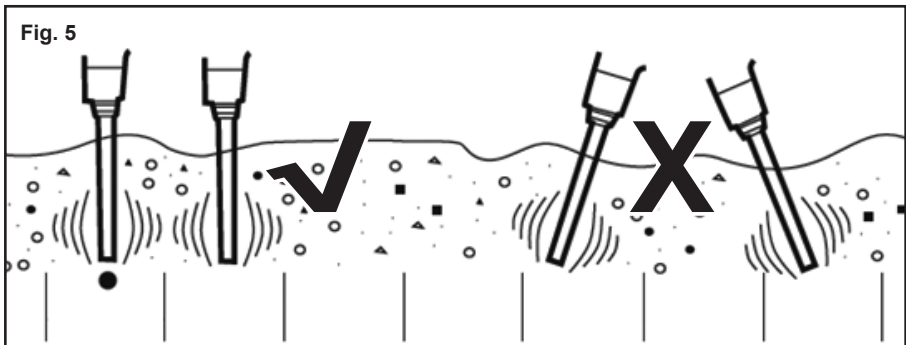
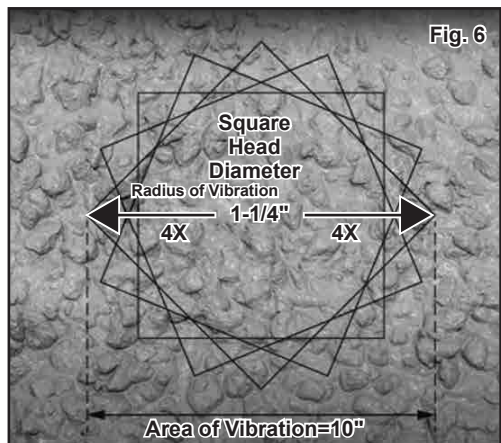

Fig. 5
Fig. 6
- 4) With the Trigger squeezed, move the Vibrator Head up and down in the concrete to remove all of the air bubbles (**See Fig.5**). The effective air bubble removal range is about eight times diameter of the vibrating head, or around 254mm (10") (**See Fig.6**).